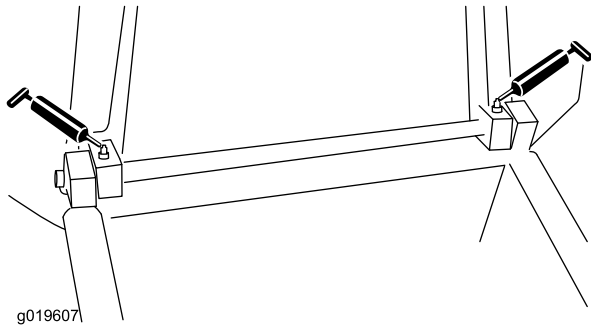

Figure 19
- Hopper pivot points (Quantity 2)—Figure 19